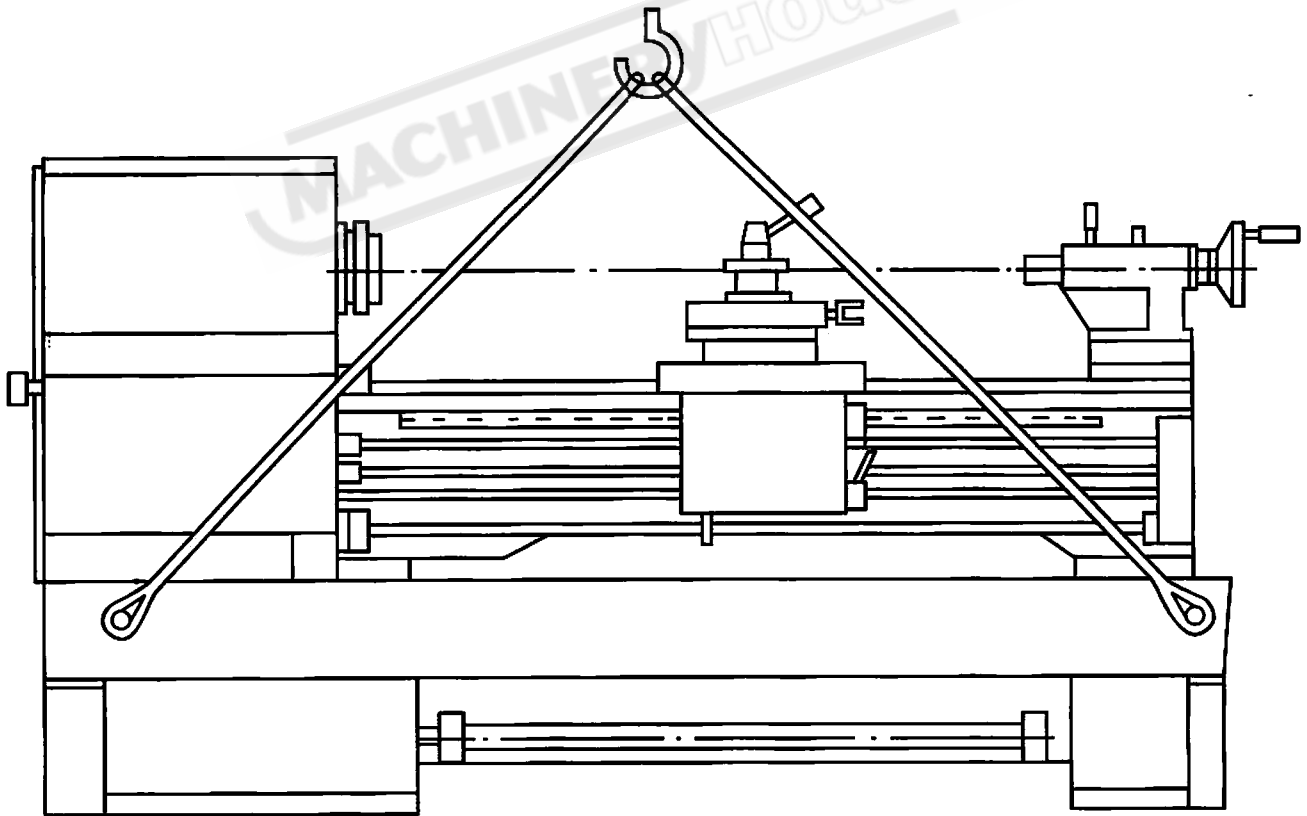

Fig.1
4. Sling lathe with adequate lifting equipment as diagrammed in Fig.1, (Do not lift by spindle.) Slowly raise the lathe off the shipping crate bottom. Make sure lathe is balanced before moving.